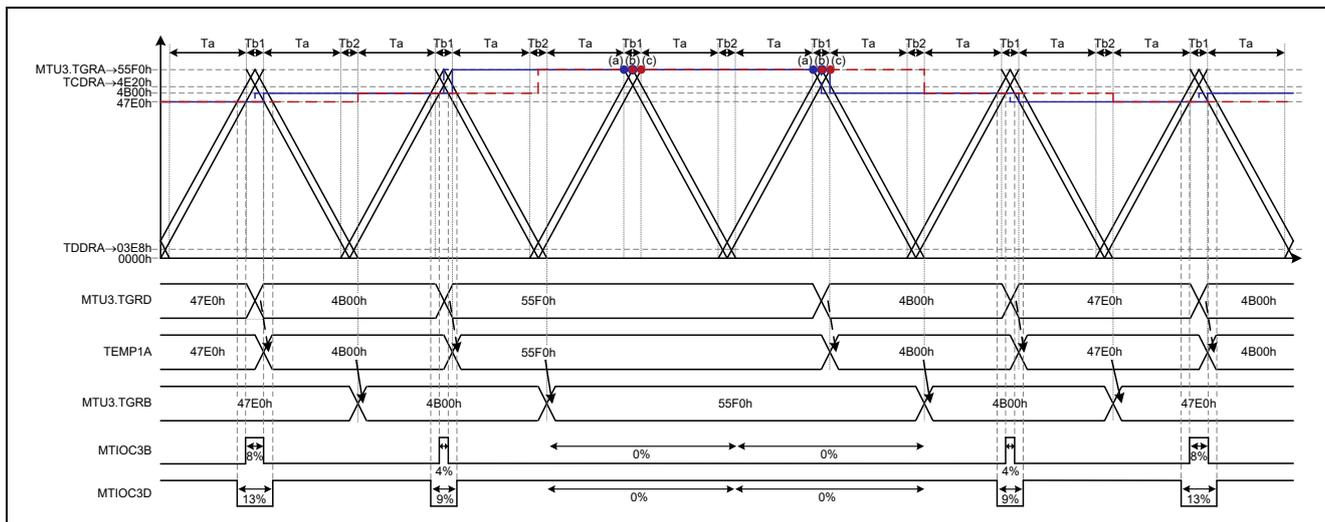
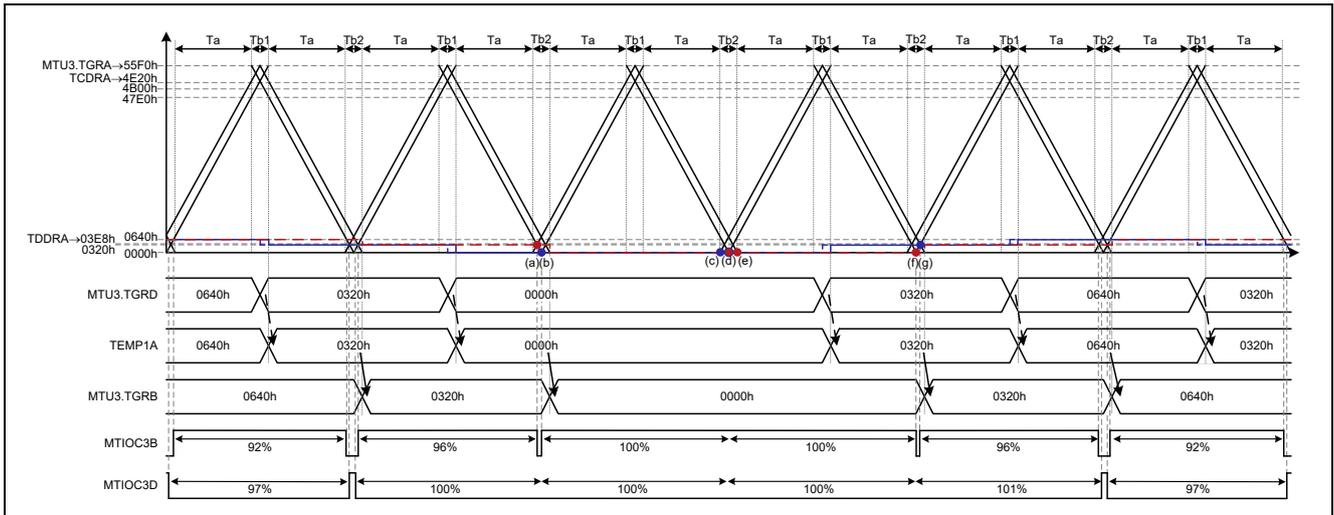

Figure 3.6 Sample Code Operation (Near 0% Duty Cycle: 8% → 4% → 0% → 0% → 4% → 8%)
Figure 3.7 Sample Code Operation
- Refer to Figure 3.6 and Figure 3.7 for buffer register initial values.
- Refer to Figure 3.6 and Figure 3.7 for duty cycle change timings.
- Buffer overwrite occurs in the Tb1 interval (crest) in complementary PWM mode 3 (Figure 3.6).
Buffer overwrite occurs in the Tb1 interval (crest) in complementary PWM mode 3 (Figure 3.7).